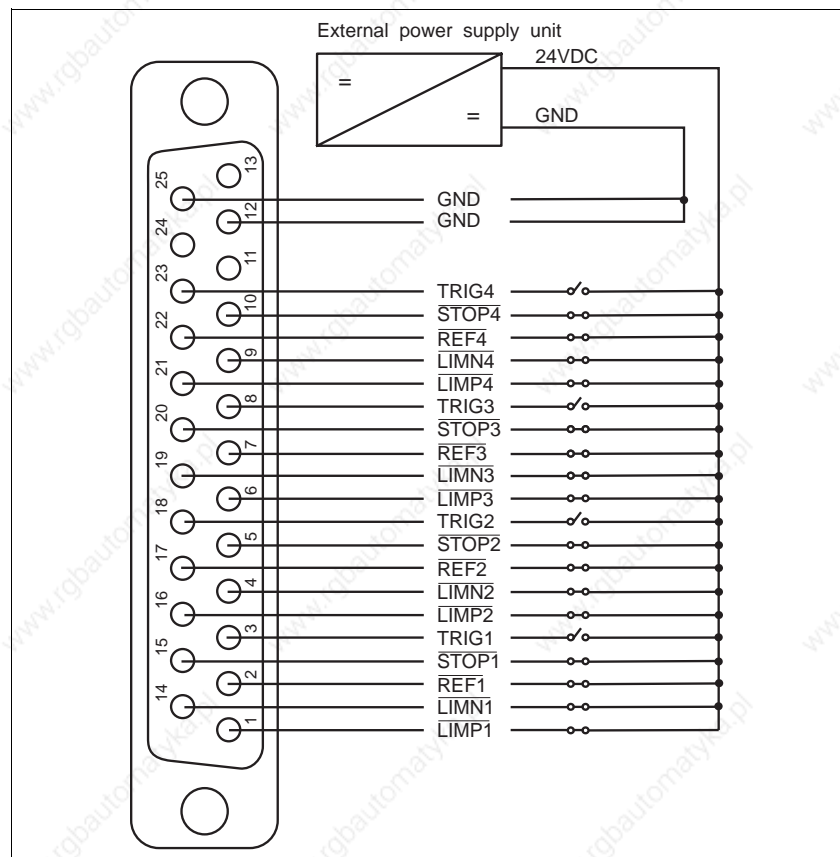

Fig. 2-8 Limit switch connection
1. Solder the litz wires to the connector as illustrated in fig. 2-8.